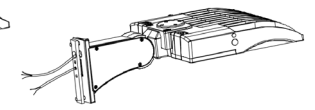

Fig. 4
2. Install the bracket on the fixture, then cover the access cover and tighten it (Fig. 4).